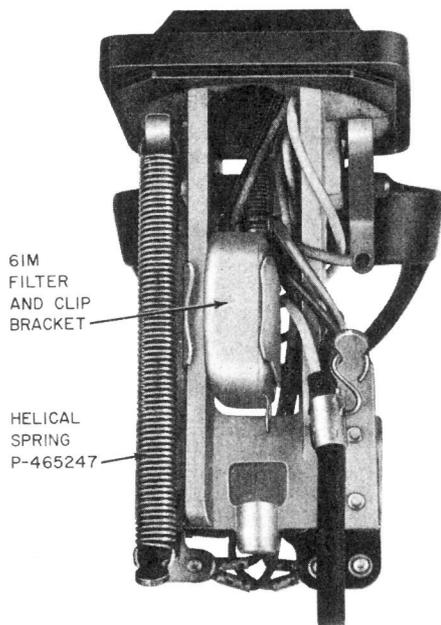

Fig. 4—Assembly of Filter on G-Type Handset Mounting
5.01 The 212-type is arranged for, but not equipped with, a 61M filter (Fig. 4) for radio frequency suppression, when this filter is required, remove the dial cord between (Y) of the dial and (BK) of the line switch and connect as follows: